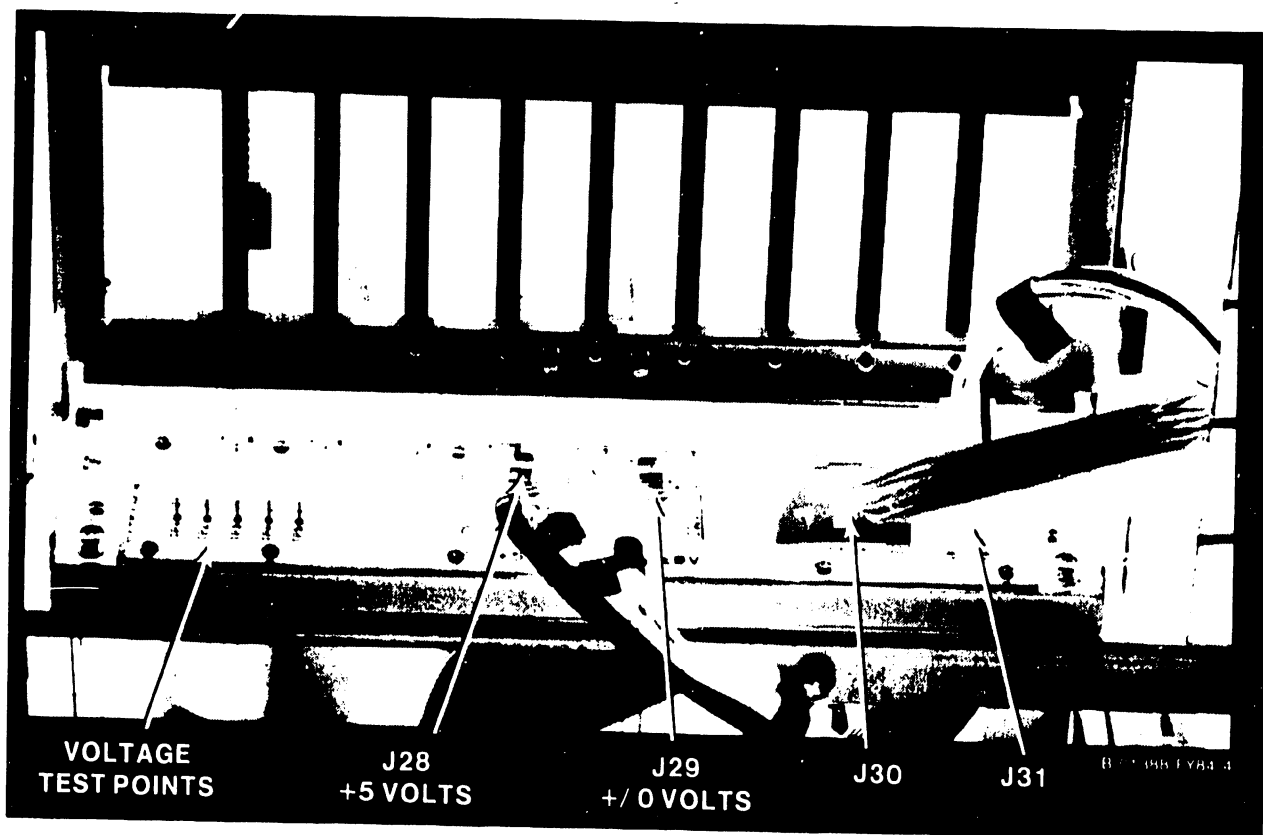

Figure 4-4. Motherboard Power Connectors
3. The following voltages must be checked on the at the motherboard test points (figures 4-4 and 4-5). If the dc voltages are out of operating limits (table 4-3), the switching power supply must be adjusted.